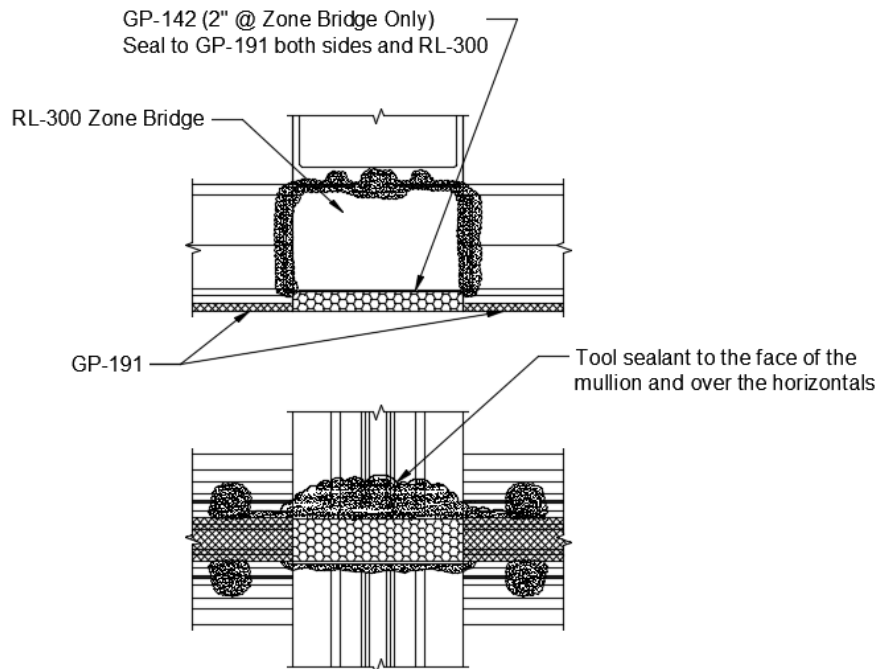

Figure 61: Isolator Gasket at Zone Bridge
- 20.4 Install 2" of **GP-142** Isolator Gasket at **RL-300** Zone Bridges per *Figure 61*, as required.